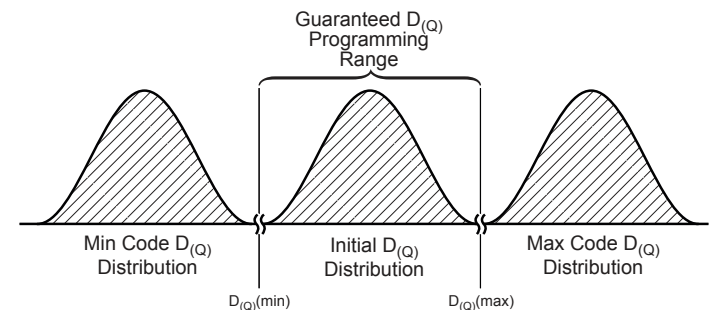

Figure 3. Definition of Guaranteed Quiescent Voltage Output Range
**Guaranteed Quiescent Duty Cycle Output Range** The Quiescent Duty Cycle Output,  $D_{(Q)}$ , can be programmed around its nominal value of 50% D, within the Guaranteed Quiescent Duty Cycle Range limits:  $D_{(Q)}(\min)$  and  $D_{(Q)}(\max)$ . The available guaranteed programming range for  $D_{(Q)}$  falls within the distributions of the minimum and the maximum programming code for setting  $D_{(Q)}$ . (See figure 3.)